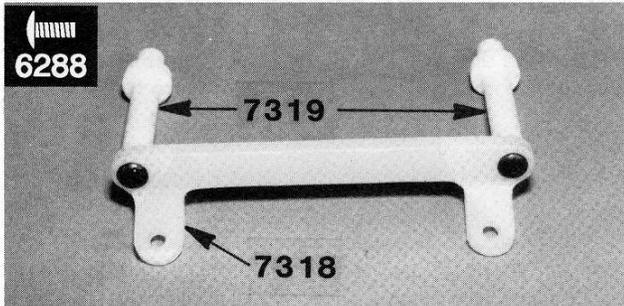

Fig. 32
□ **Figs. 32 & 33** Install the two #7319 front body mounts (from Bag 7-5) to the #7318 body mount brace with the two 4-40 x 1/4" round button head screws. Align the small body clip holes in the ends of the body mounts so they point to the left and right. Tighten screws, but not too tight. Install the brace onto the front bulkhead with two 4-40 x 3/8" SHCS screws as shown. Do not over-tighten screws.